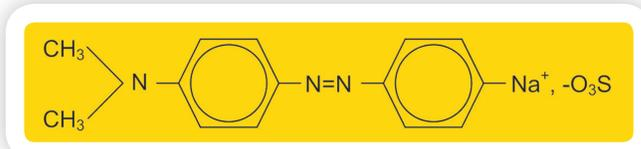

FIG. 1. The chemical structure of the dye methyl orange.
After combining TiO_2 with different concentrations of InVO_4 (from 2 to 10 percent by weight), we characterized the composites' surface area, pore size distribution, chemical properties, and morphology. We then mixed each sample with methyl orange (MO), a common industrial dye that cannot be broken down by traditional biological or chemical means; our best composite degraded 50 percent of the toxin in less than 3 hours under only visible light (see Fig. 1). Plain TiO_2